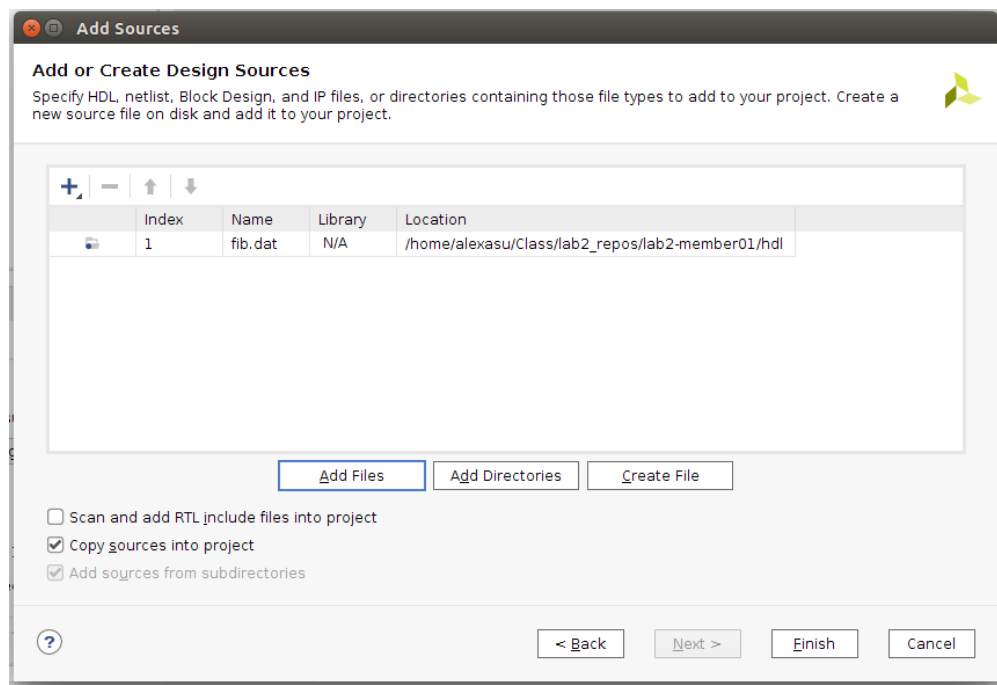

Figure 12: Open Hardware Target
4. The files you selected will be listed in the Add or Create Design Sources window. Make sure the Copy sources into project box is checked and then click Finish (i.e., Figure 12).